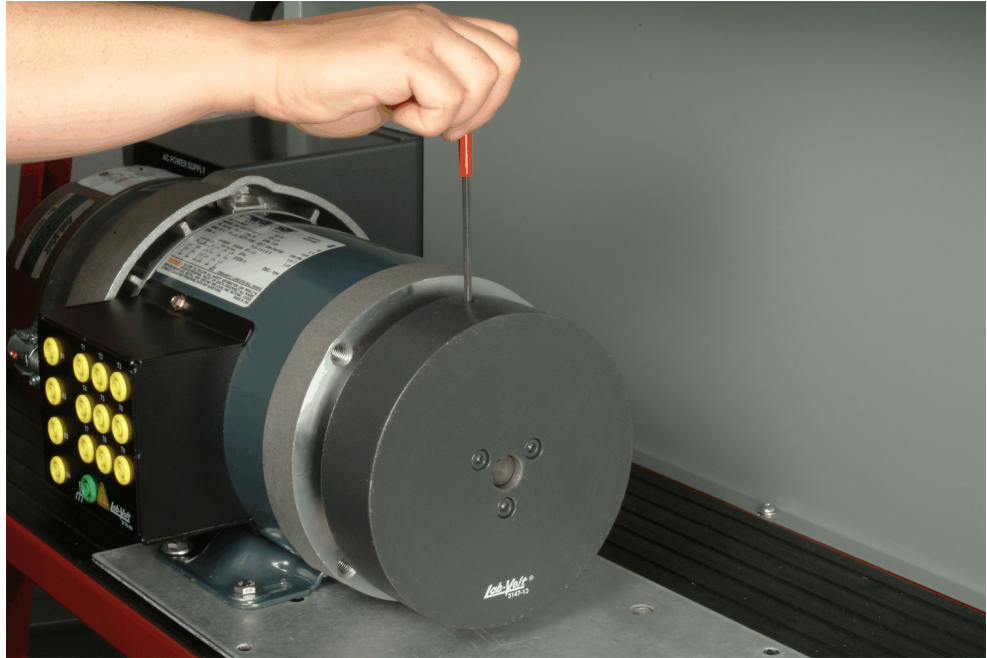

Figure E-3. Tighten the setscrew with a hexagonal key.
- Tighten the setscrew with a hexagonal key as shown in Figure E-3.